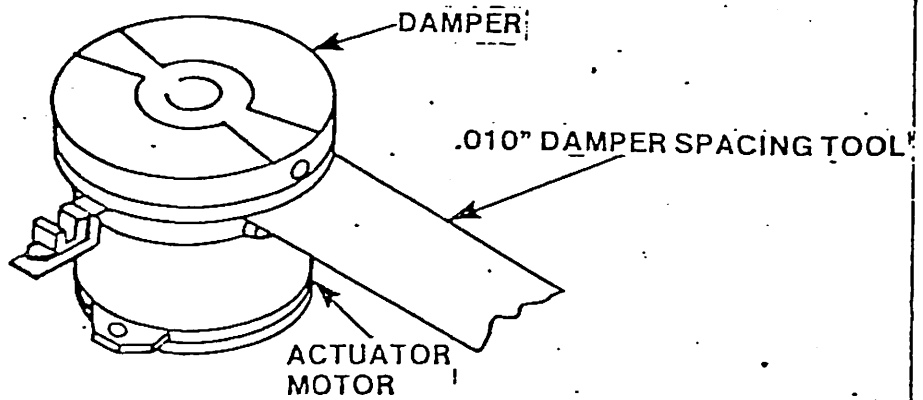

FIGURE 3. DAMPER INSTALLATION
3. Place damper spacing tool (or 0.01 inch feeler gage) between damper and track 000 clamp. (figure 3). Slide damper up against tool and tighten Allen screw.